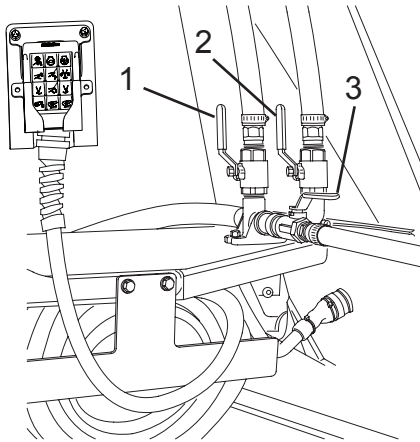

Figure 87
5. Open the upper wash-out valve (Figure 87, Item 1), “Add Water” valve (Figure 87, Item 2), or lower wash-out valve (Figure 87, Item 3) to activate the desired function.